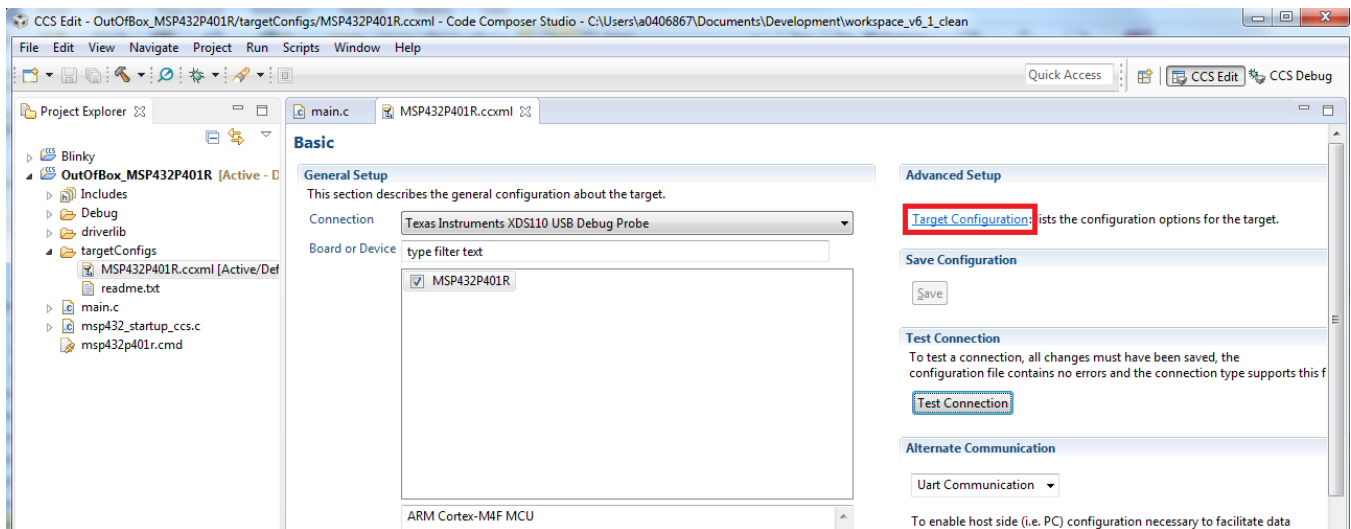

Figure 11. Target Configuration
1. Expand the project in Project Explorer and open the projects \*.ccxml file in the targetConfigs folder. Select the correct debug probe (see Figure 11).